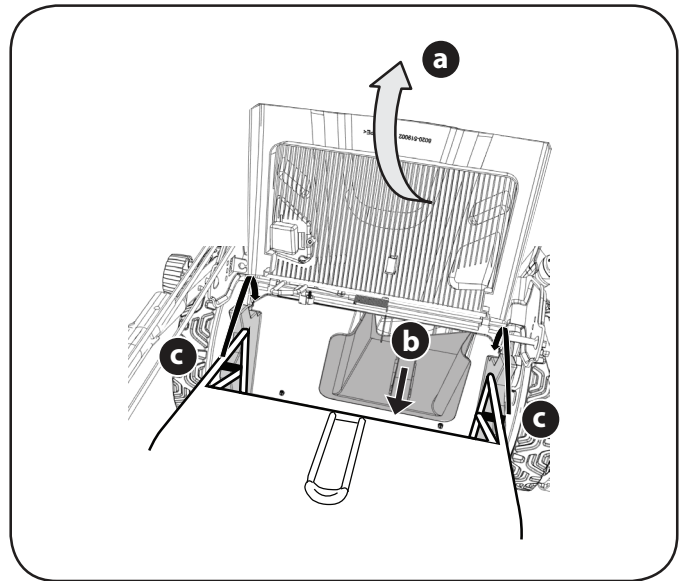
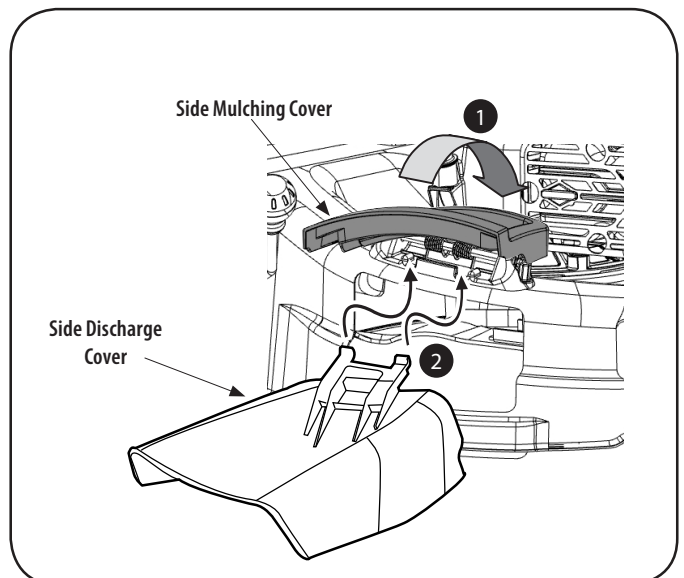

Figure 5
Figure 7
- a. Lift rear discharge door (Figure 5).
- b. Remove the mulch plug (Figure 5).
- c. Place grass catcher into the slots in the handle brackets (Figure 5). Let go of discharge door so that it rests on the grass catcher.
Your mower is shipped as a mulcher. To convert to rear discharge, make sure the grass catcher is off, the mulching plug removed, and the mulching cover is closed (Figure 5 and Figure 7).
1. On the side of the mower, lift the mulching cover (Figure 7).
2. Slide two hooks of side discharge cover under hinge pin on mulching cover assembly (Figure 7). Lower mulching cover. Do not remove side mulching cover at any time, even when you are not mulching.